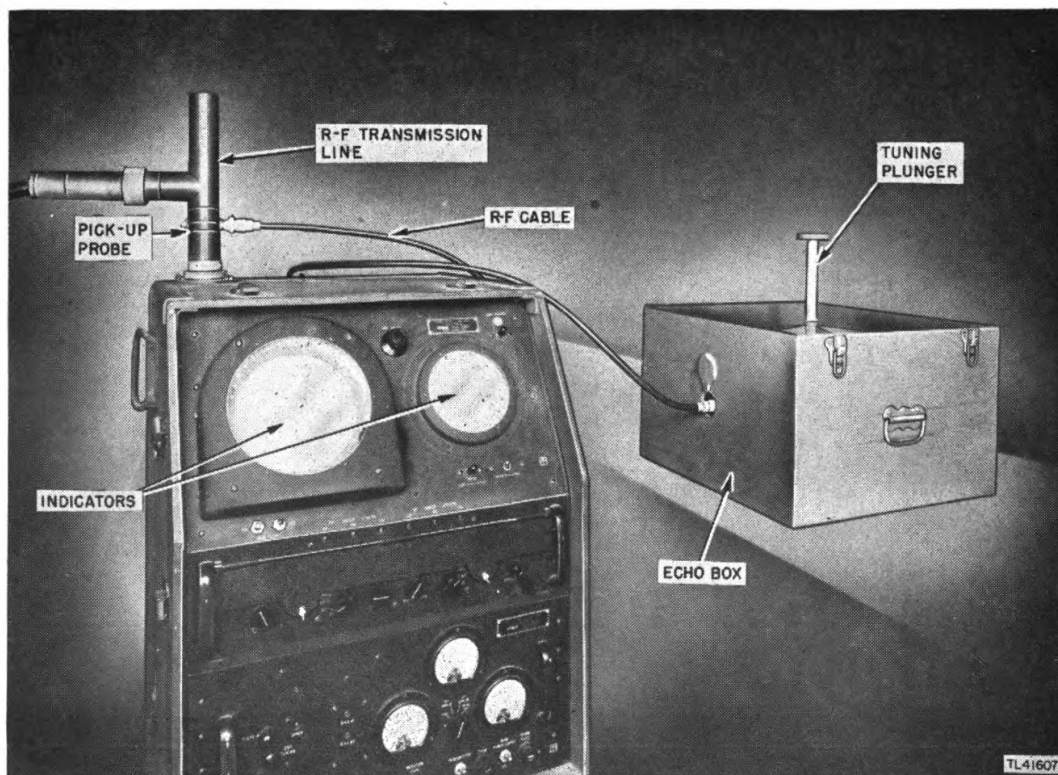

Figure 2. Echo Box TS-280/TPS-3 connected to radar transmission line.
- d. Connect the pick-up probe to the r-f transmission line of the radar set (fig. 2).